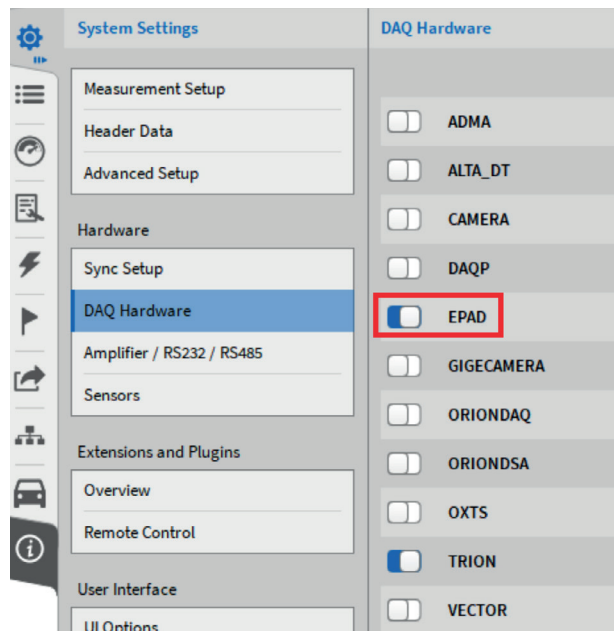

Figure 2: Enabling the EPAD Series in the DAQ Hardware setup
- > Select the *DAQ Hardware* section and ensure the slider button next to the EPAD Series is activated (see Figure 2) (Changes take effect on application restart)